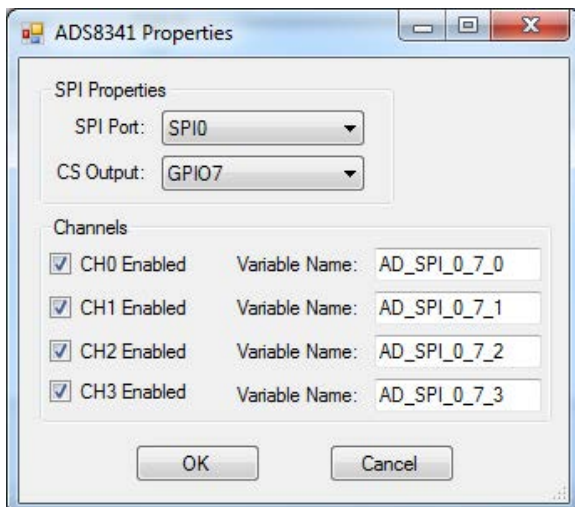

Figure 15-18
Select the SPI port from the drop down menu and select the general purpose output pin (GPO) that will serve as this device's chip select (CS). See Figure 15-18. Any chip select pins reserved for structured text will not be visible in the drop-down menu.